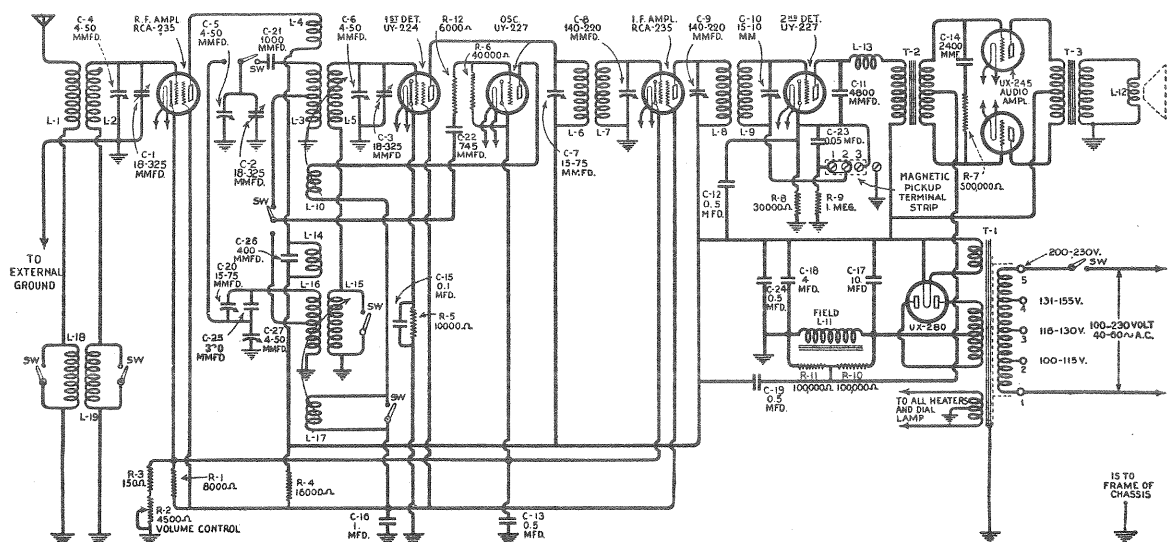
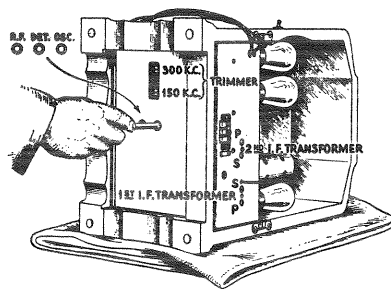
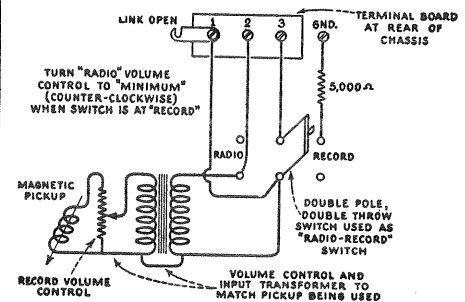
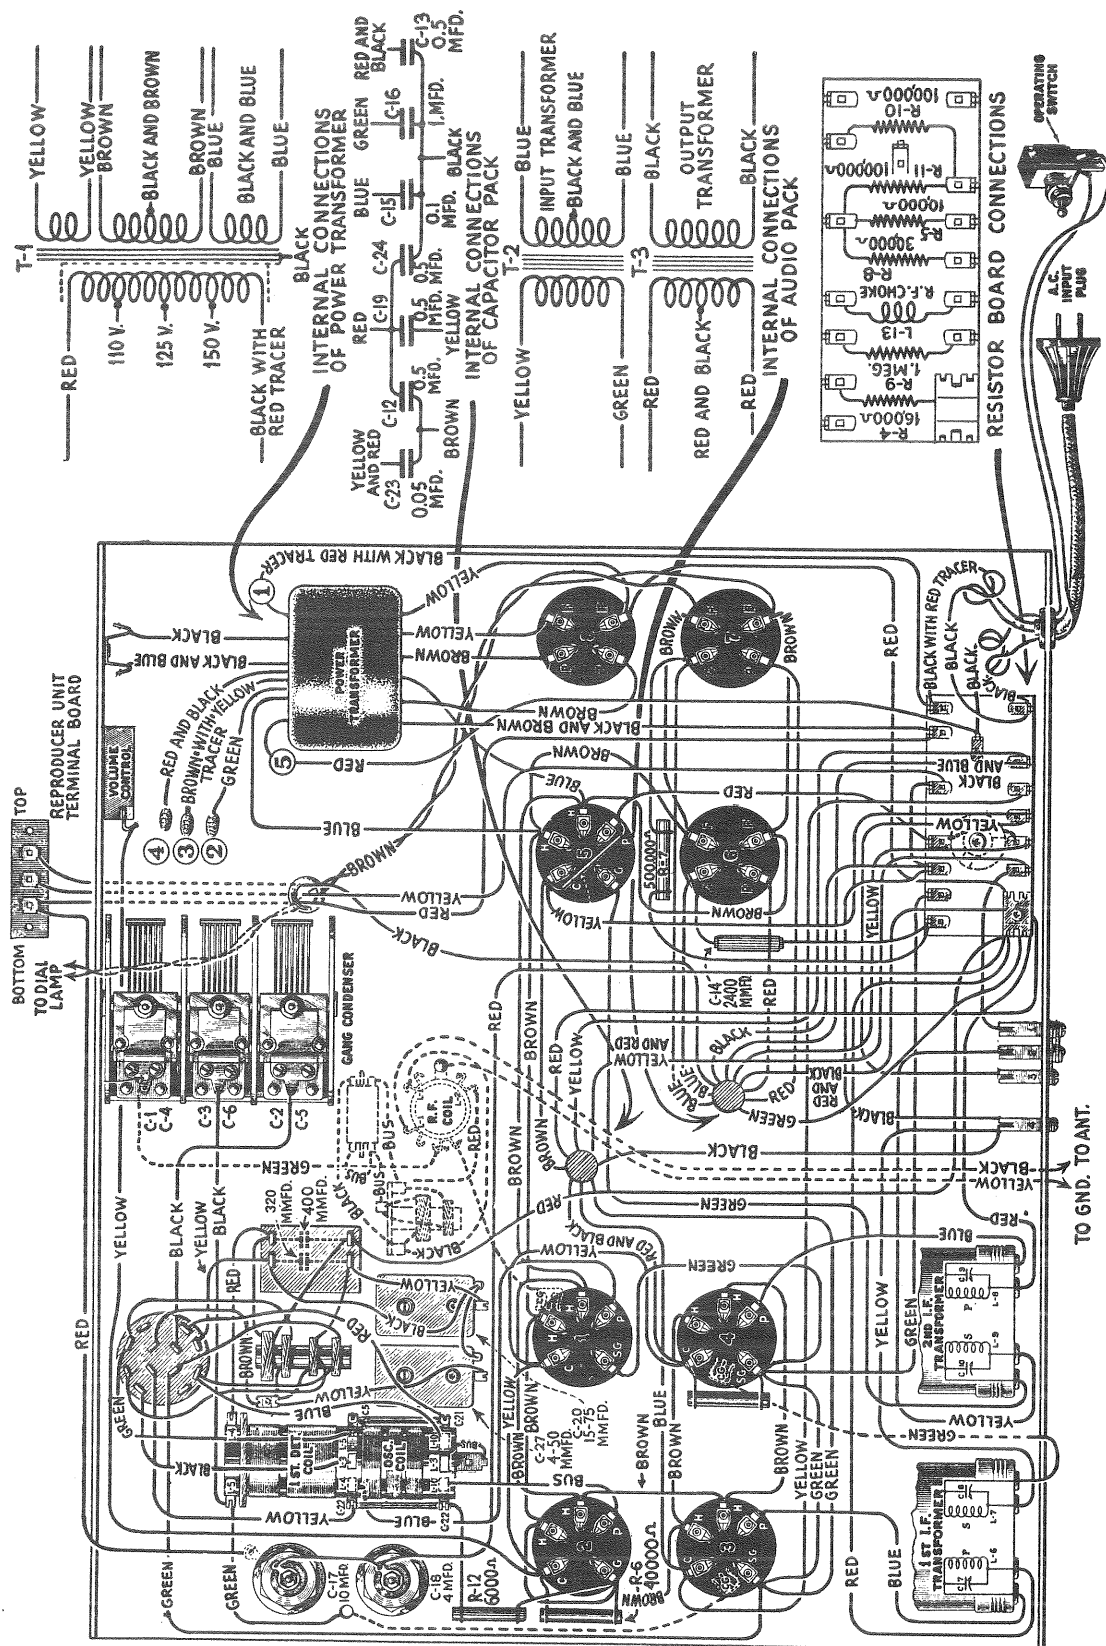

Figure 1—Schematic circuit diagram of R-7-LW
Figure 2—Location of various line-up capacitors
Figure 3—Magnetic Pickup Connections
Figure 4—Wiring diagram of R-7-LW
Figure 1 shows the schematic circuit diagram. Figure 2 shows the location of the various line-up capacitors. Figure 3 gives the correct connections for attaching a magnetic pickup to the R-7-L.W. and Figure 4 shows the wiring diagram. The voltage readings obtained at the Radiotron sockets with one of the usual set analyzers are given on page 3.
- Now adjust the secondary and primary of the second and first I.F. transformers until a maximum reading is obtained in the output meter. See Figure 2. Go through these adjustments a second time as a slight readjustment may be necessary.
- With the socket wrench adjust the oscillator, first detector and R.F. line-up condensers until a maximum deflection is obtained in the output meter. (See Figure 2).
- Set the oscillator at 300 K.C. Set the Selector Switch to the right for the low frequency band and tune in this signal with the receiver. Adjust the Volume control for a deflection in the output meter. Now adjust the 300 K.C. condenser Figure 2 until maximum output has been obtained. Rock the gang condenser back and forth while making this adjustment.
- Set the oscillator at 150 K.C. and repeat as in (f) only adjust the 150 K.C. trimming condenser shown in Figure 2.